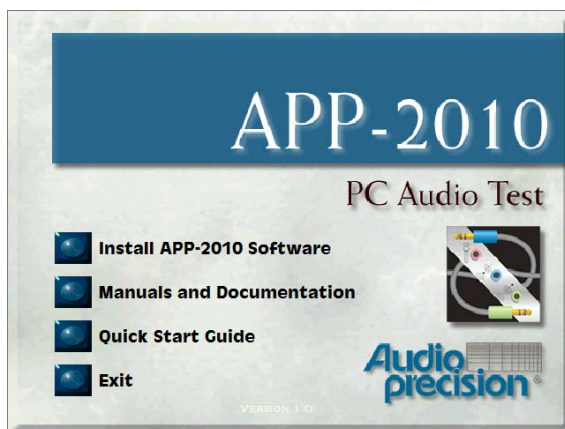

Figure 12. APP-2010 PC Audio Test Installation Screen.
- The Windows Autorun features should automatically open the installation menu shown in Figure 12. If Autorun is not enabled on your